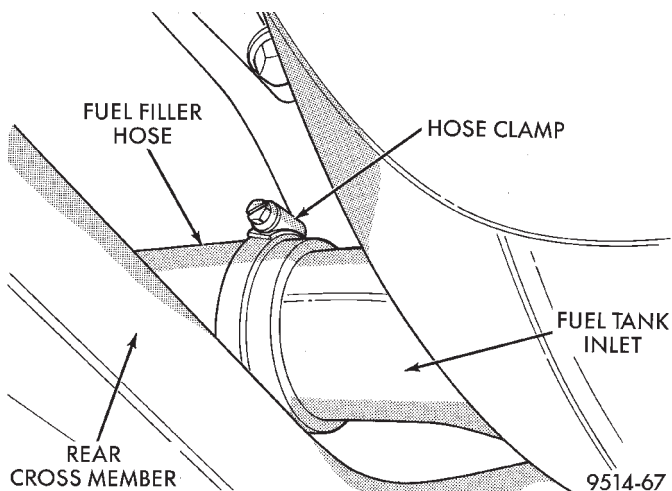

Fig. 39 Fuel Filler Hose Clamp
(9) Disconnect fuel tank from rubber fill hose (Fig. 39).